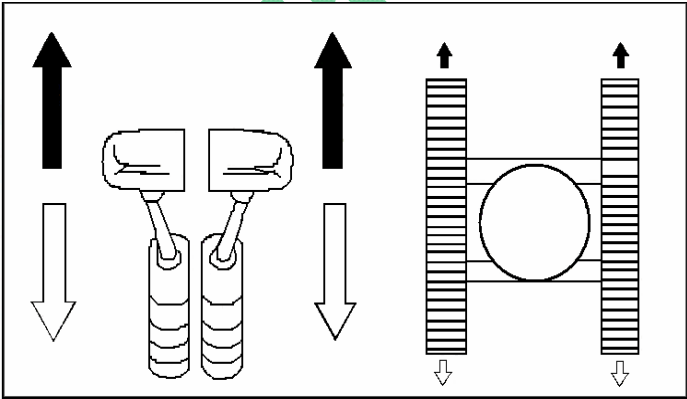

Fig 3-34
10. When going straight (Fig 3-34), push forward or pull backward the operating rod/ pedal. The movement of the operating rod / pedal bigger, the faster of the machine will be.